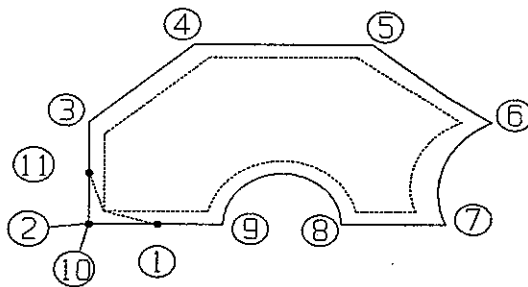

Figure 12.1
In Figure 12.1 the tool should be brought down at points (2) and taken back up at (10).